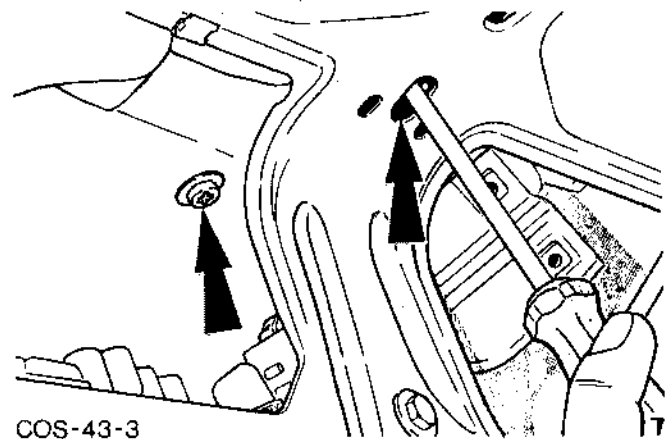

Fig.1. Spoiler retaining screws.
2. Remove spoiler centre securing screws, Fig.1.